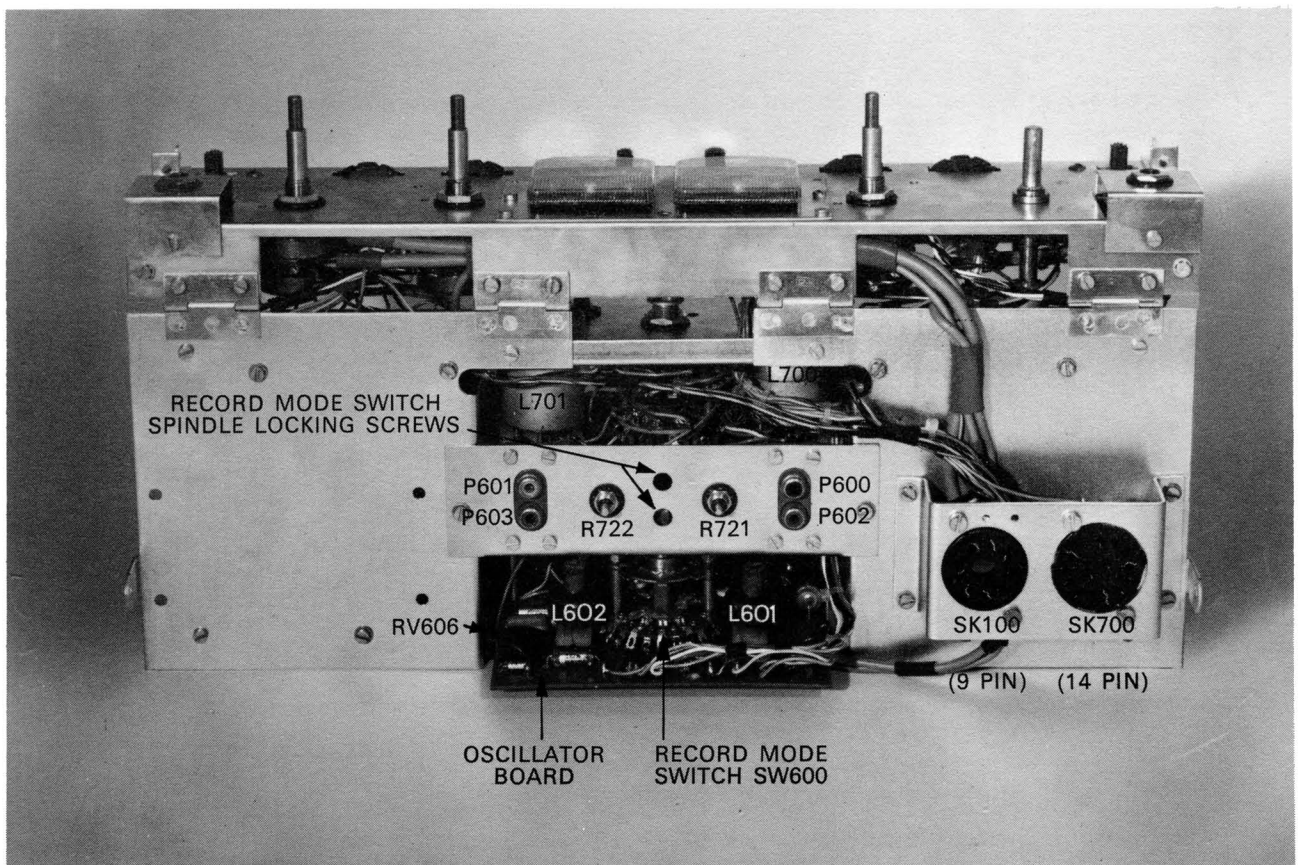

FIG. 3. AMPLIFIER—STEREO, REAR VIEW
- (b) Locate the spindle extension upper locking screw (Fig. 3).
- (a) On Stereo Models, slacken the lower grub screw in the Record Mode switch shaft (Fig. 3) and remove the two nuts holding the switch to the cross bracket.
- (iii) Remove 14 pin plug P700 from socket SK700 at rear of amplifier assembly (Fig. 3 or 5).